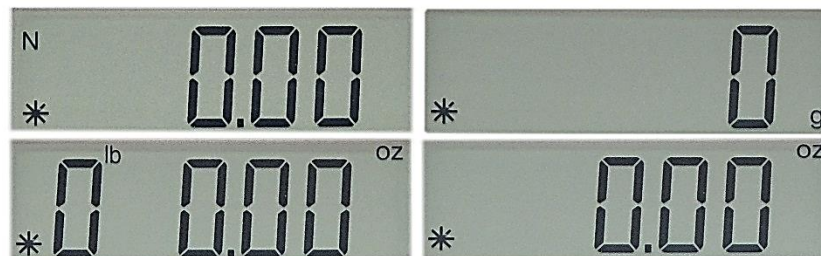

Figure 1.25: Various units measured by the digital balance.
- 4- The digital balance can measure the mass/weight with various units. To obtain correct and reasonable readings, always make sure the balance is measuring the mass/weight with the desired unit. The “Unit” button switches between various units such as gm, Newtons, oz and lb. The adjusted unit is always displayed on the screen as shown in Figure 1.25.